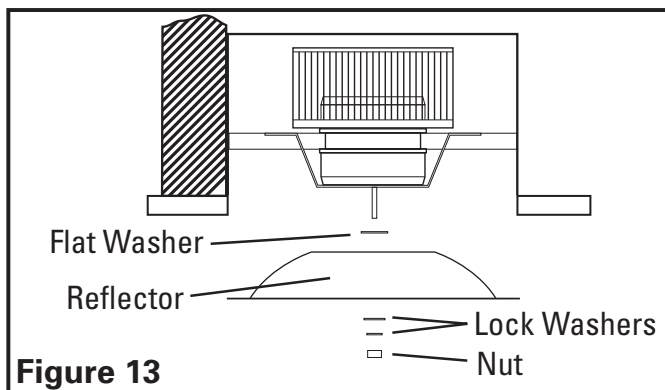

Figure 13
3. Reinstall the light reflector by securing in place on the mounting bolt with the flat washer then the reflector, two lock washers and reflector nut. Tighten nut fully (**Figure 13**).